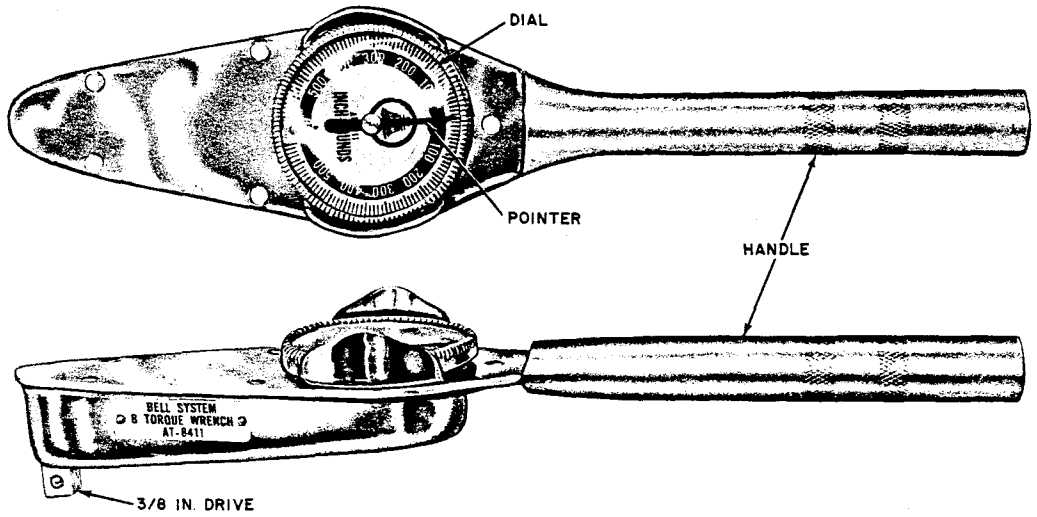

Fig. 1—B Torque Wrench
2.01 The B Torque Wrench (Fig. 1) has a 3/8-inch square drive and a gauge covering a torque range of 0 to 600 inch-pounds in 10 inch-pound increments in either direction.